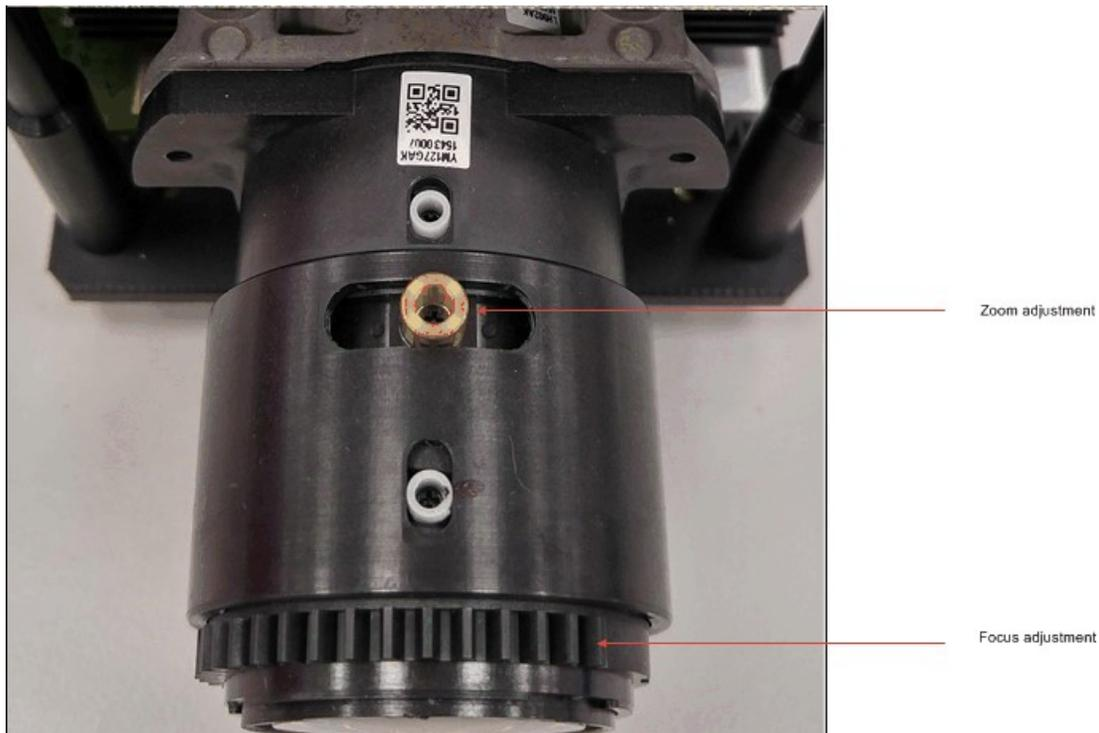

图 6. Optical Module With Focus and Zoom Adjustment
5. The focus and zoom of the image can be adjusted on the optical module (图 6).